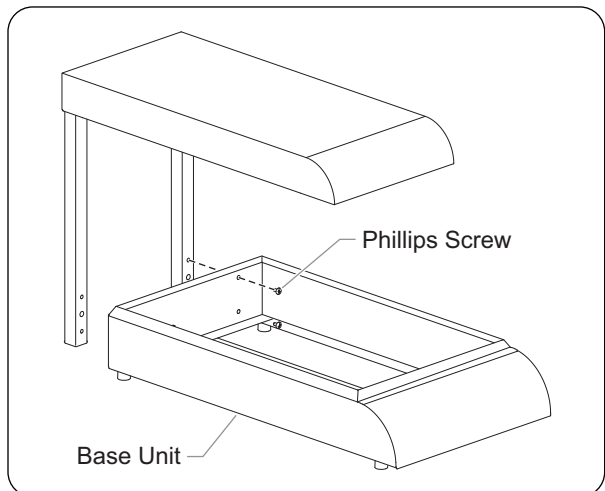

Figure 6. Assembly of Top Housing with Leg Bracket to Base Unit
5. Secure top assembly to base unit using screws provided (see Figure 6.).